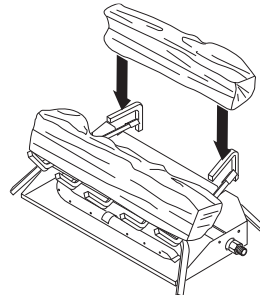

Figure 9 - Installing Bottom Logs
3. Place the back log onto the grate steps (see Figure 9).
4. Place the front log(s) on the grate and slide forward against the front bars on the grate (see Figure 9).